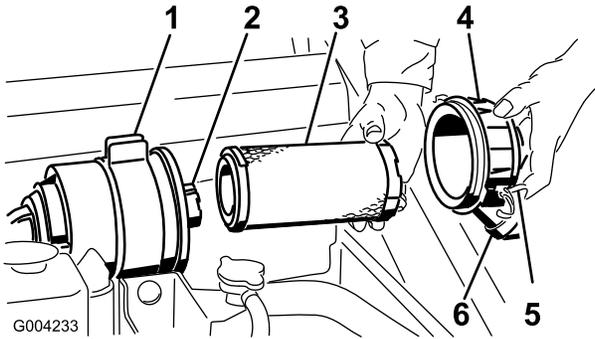

Figure 26
3. Release the latches on the air cleaner and pull the air cleaner cover off of the air cleaner body (Figure 26).
6. Gently slide the primary filter out of the air cleaner body (Figure 26). Avoid knocking the filter into the side of the body.
9. If you are replacing the safety filter, carefully slide the new filter into the filter body (Figure 26).
10. Carefully slide the primary filter over the safety filter (Figure 26). Ensure that it is fully seated by pushing on the outer rim of the filter while installing it.
11. Install the air cleaner cover with the side indicated as UP facing up and secure the latches (Figure 26).